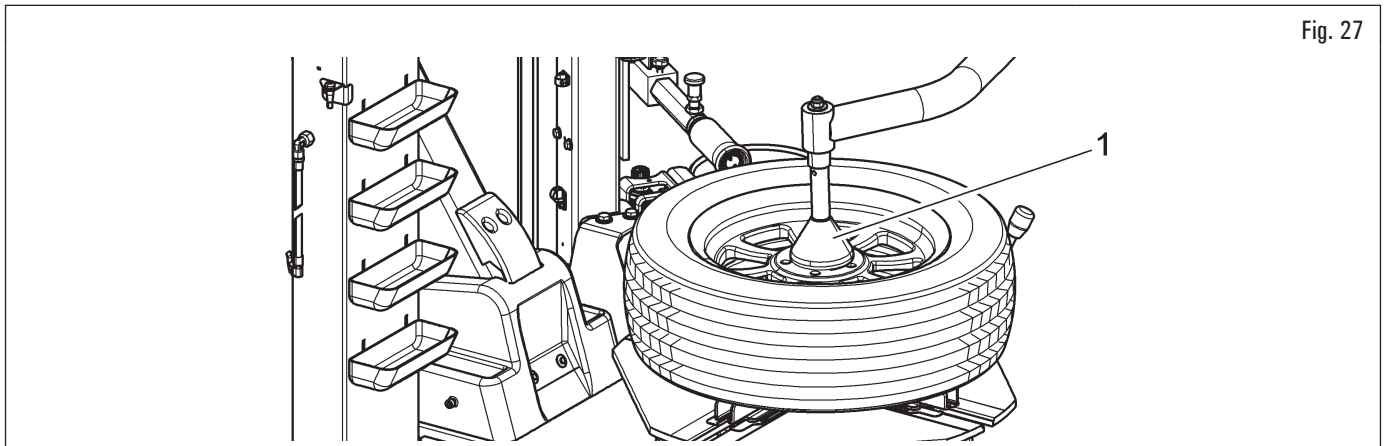

Fig. 27
1. To facilitate the locking of hard or low profile wheels, the operator can use the bead press tool (Fig. 27 ref. 1) supplied with the device;
2. place the bead press tool (Fig. 27 ref. 1) in the centre of the rim and lower the rim until the jaws can lock the rim.